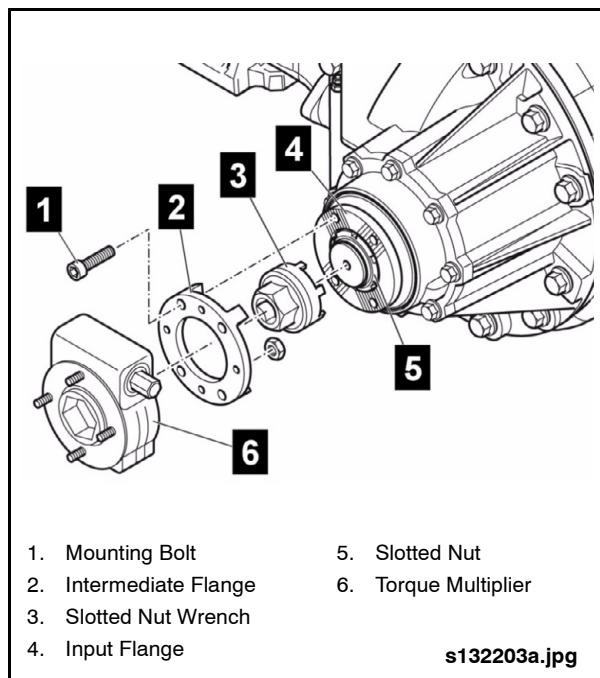

Fig. 2-32: Mounting Input Flange Tool
- a. Position Intermediate Flange (Item 43 from Special Tools List) on input flange and secure with mounting bolts. See "Fig. 2-32: Mounting Input Flange Tool" on page 32.